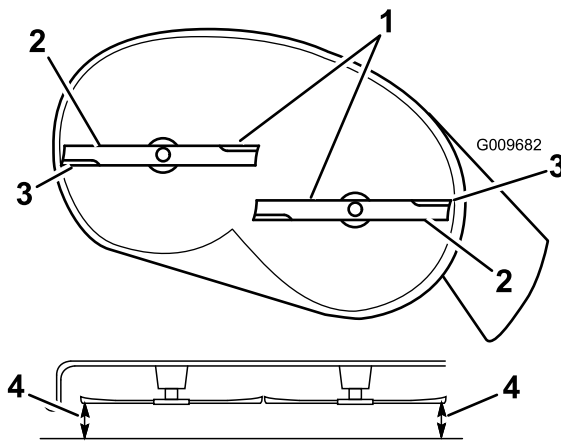

Figure 49
4. Carefully rotate the blades so that they are all side to side (Figure 49).
5. Measure between the outside cutting edges and the flat surface (Figure 49). If both measurements are not within 3/16 inch (5 mm), an adjustment is required; continue with this procedure.